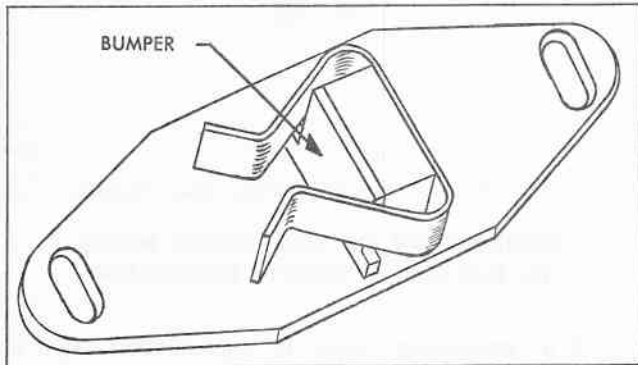

Fig. 17 Rubber Bumper Installed
2. Cement bumpers to folding seat back retainer assemblies as shown in Fig. 17.